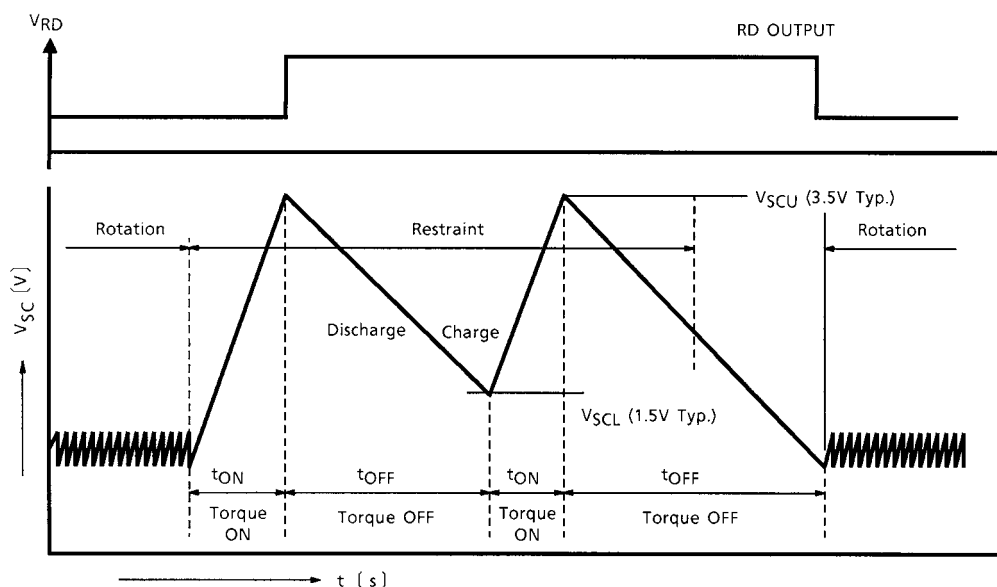

Fig. 2
The FG output is pulse proportional to the number of revolutions (the cycle is the same as OUT B) and the RD output is at the GND level (actually, at V_{sat} (RD) level) when the motor is being driven and the RD output at the potential level that is to be applied to the RD terminal as shown in Fig.2 is output when the motor is kept restrained.
This operation is shown in Fig.2.